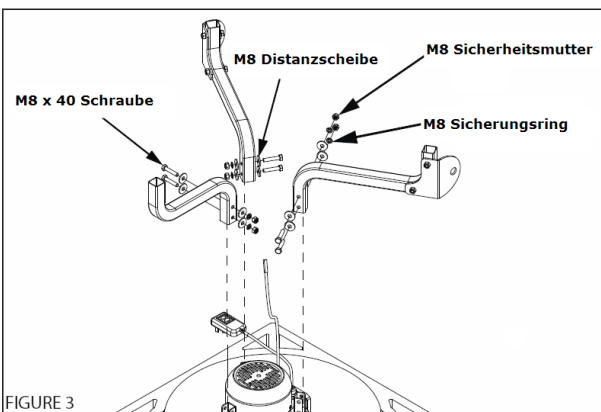

FIGURE 3
3. Mount the feet on the machine frame (FIGURE 3). Move the long feet to the side of the motor and the short foot to the opposite position.